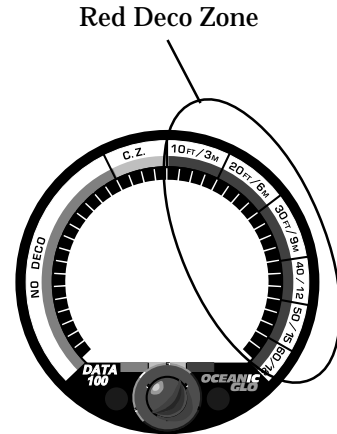

Fig. 35 - TLBG
**Decompression diving should therefore be strictly avoided.** The Data100 is designed to help you by providing a complete representation of how close you are to entering decompression. In the event that you do inadvertently enter decompression, the red zone of the TLBG (Fig. 35), the Data100 can provide you with limited information to help you ascend to the surface, if you follow the instructions given in this section.